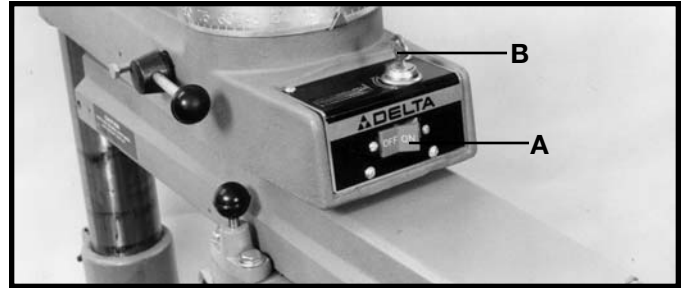

Fig. 35
The On/Off Switch (A) Fig. 35, is conveniently placed at eye level on the front of the overarm. **IMPORTANT: When the tool is not in use, the switch should be locked in the "OFF" position to prevent unauthorized use.** This is achieved by pressing in and holding the switch (A) down in the "OFF" position while turning key (B) to the lock position; then remove key (B).